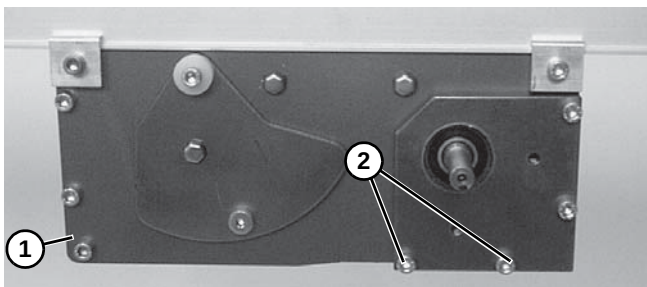

Figure 35
10. Tighten corner screws (**Figure 35, item 1**) on each side of the drive module to 80 in-lb (9 Nm).
12. Re-install tension door screws (**Figure 35, item 2**) on each side of the module. Tighten screws to 80 in-lb (9 Nm).
*With vertically mounted gearmotors, tension door screws (**Figure 35, item 2**) are installed on one side when the gearmotor mounting package is installed.*